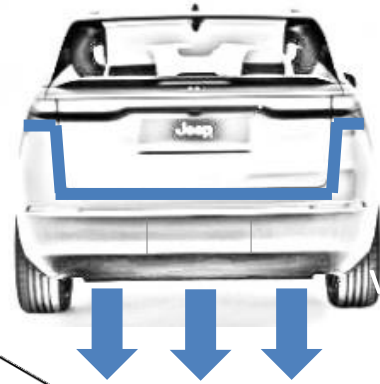
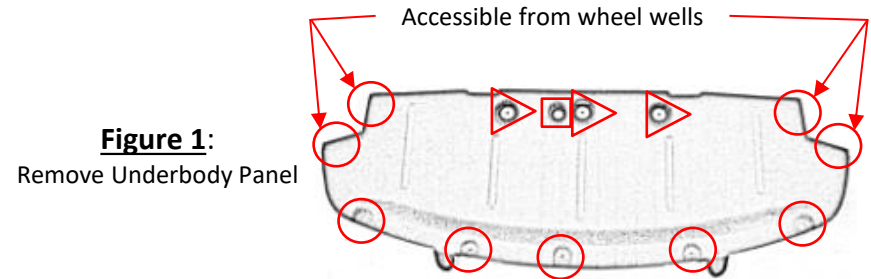

Figure 2:
Figure 1:
- 1. Remove Underbody Panel (figure 1):** **a)** Using a Phillips head screwdriver (or 8mm socket), remove (9) screws on edges of panel (circles). **b)** Using a 10 mm socket, remove (3) screws from the frontmost recessed pockets of the panel (triangles). **c)** Using a flathead screwdriver, remove the (1) light push pin (square). **d)** Carefully remove panel and set aside.
- 2. Remove Underneath Screws:** Using a Phillips head screwdriver (or 8mm socket), remove (2) screws connecting fascia to plastic support brackets.
- 3. Remove Rear Fascia (figure 2):** **a)** Using a Phillips head screwdriver (or 8mm socket), remove (4) screws from each wheel well along vertical outside edge **b)** Using tape, line the edges of the fender trim and edges of fascia. **c)** Using plastic trim tools, remove both fender trim pieces (1 per side). **d)** Using 7mm socket, remove (6) screws (3 per side) from area under fender trim. **e)** Pull wheel well liner to the side. Then, using a flathead screwdriver, remove (2) plastic push pins (1 per side). **f)** Open the tailgate. Then, using a T30 torx bit, remove (2) screws holding the fascia (1 per side). **g)** Using plastic trim tools, starting from the wheel well area working toward the center, gently pull/pry the fascia until clips are released. Unplug the wiring connectors and using a flathead screwdriver, remove any wiring connections holding the fascia to the end panel. **h)** Carefully remove fascia and set aside.